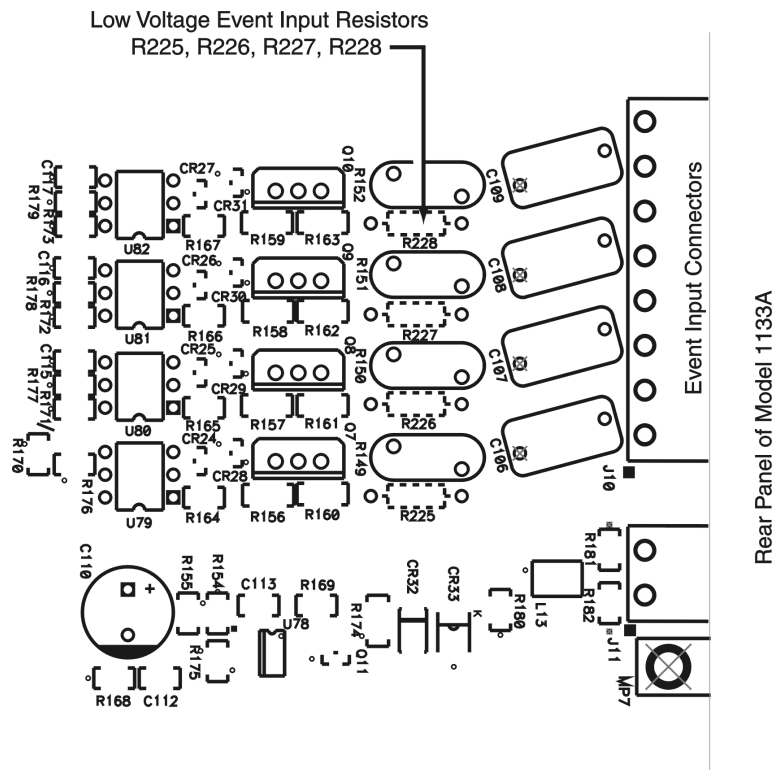

Figure 14.1: Event Input Resistor Settings
All of the four event inputs on the 1133A Power Quality / Revenue Standard are configured for an input voltage range of 24-240 Vdc. For the standard setting NONE of the four optional resistors need to be installed, i.e. R225, R226, R227, R228 (See Figure 14.1).
8. Locate the four resistor positions (R225, R226, R227, R228) near the Event Input connectors. See Figure 14.1.